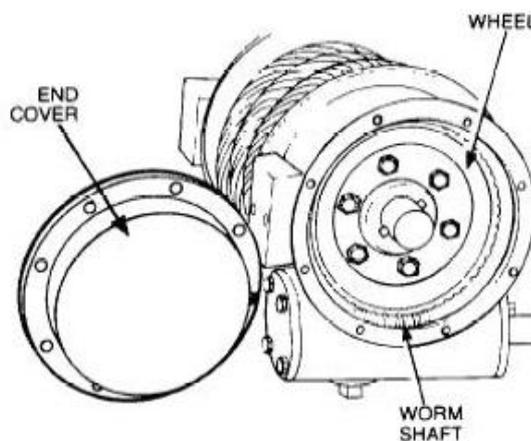

Figure 341 Removal of the End Cover
- i.** Remove the eight bolts that secure the end cover and gasket. Remove the cover and discard the gasket (Figure 341).